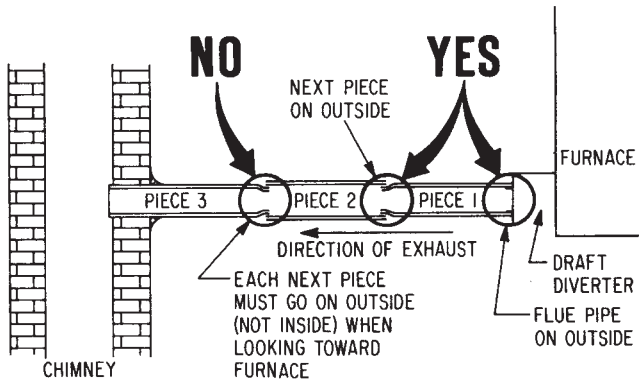

Figure 6
7. The flue pipe **MUST** be on the outside of the draft diverter collar. **See Figure 6.**
8. Each new piece of flue pipe that is connected when getting farther away from the furnace **MUST** connect on the outside of the previous one. **See Figure 6.** Remember, the exhaust must flow "into" the next pipe.